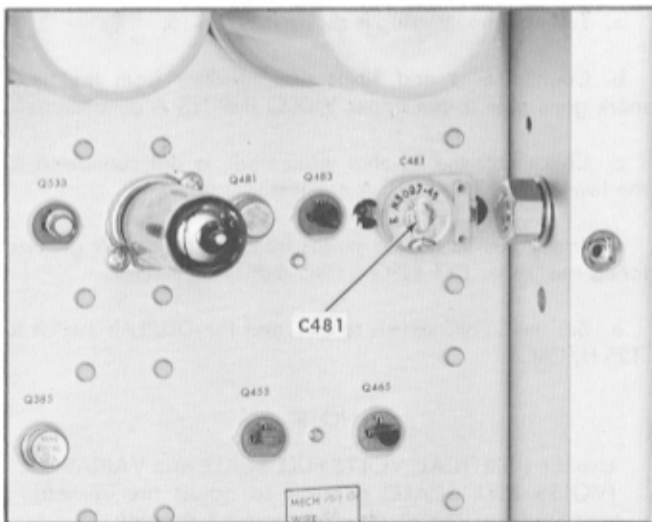
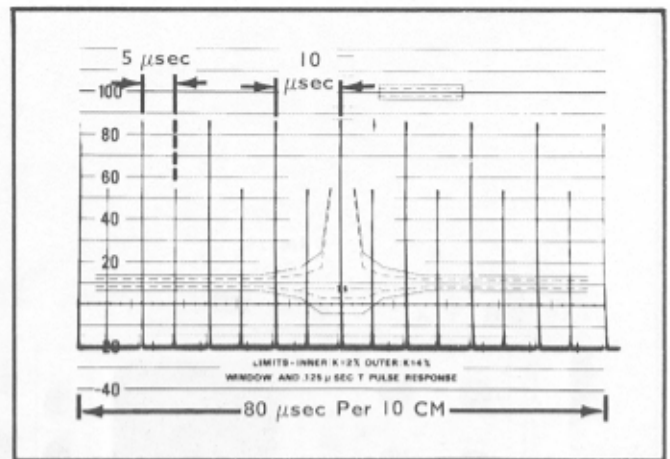

Fig. 6-17. Location of C481 adjustment.
Fig. 6-18. Adjusting C481 for correct  $\times 1$  sweep timing.
**16. Adjust Miller Timing Capacitor (C481) ①**
- c. Adjust the Miller timing capacitor (C481; see Fig. 6-17) for 80  $\mu$ s per 10 cm (see Fig. 6-18).